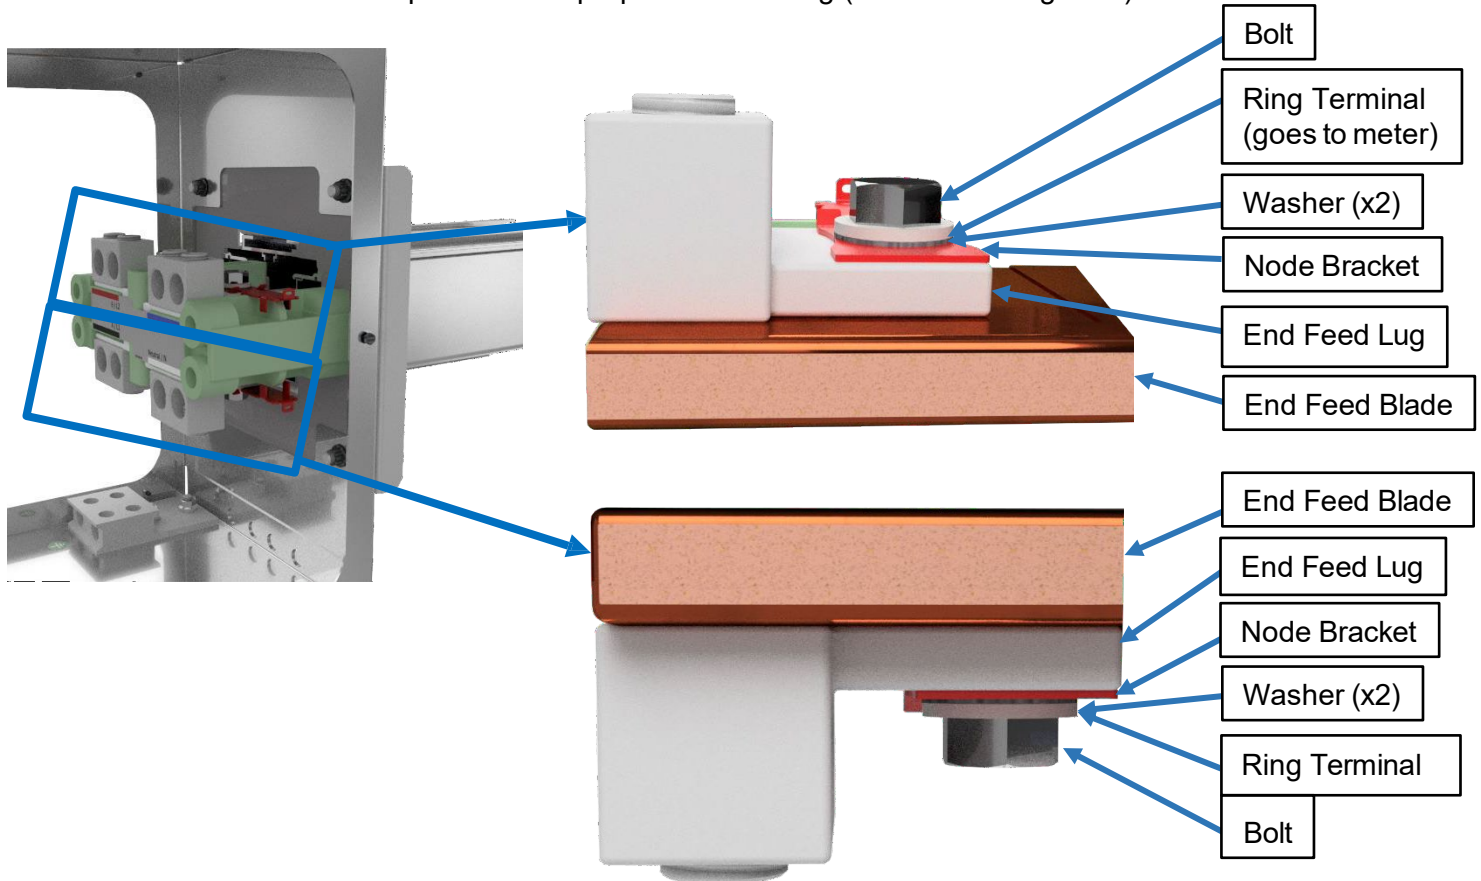

Figure 4 – Displays node bracket location in mechanical stack-up (colorization added for clarity)
3. When installing the conductor to the mechanical lugs make sure that the wire does not protrude through the hole as shown in Figure 4 below. This will cause an interference with the node bracket.
- a. Exact placement shown in Figure 4 is necessary to achieve the required creepage and clearance distances mandated by UL 857 & IEC 61439.
- c. Note: The node bracket will want to rotate when tightening down the bolts. Be sure to hold the node bracket in place so it is perpendicular to lug (as shown in Figure 4).